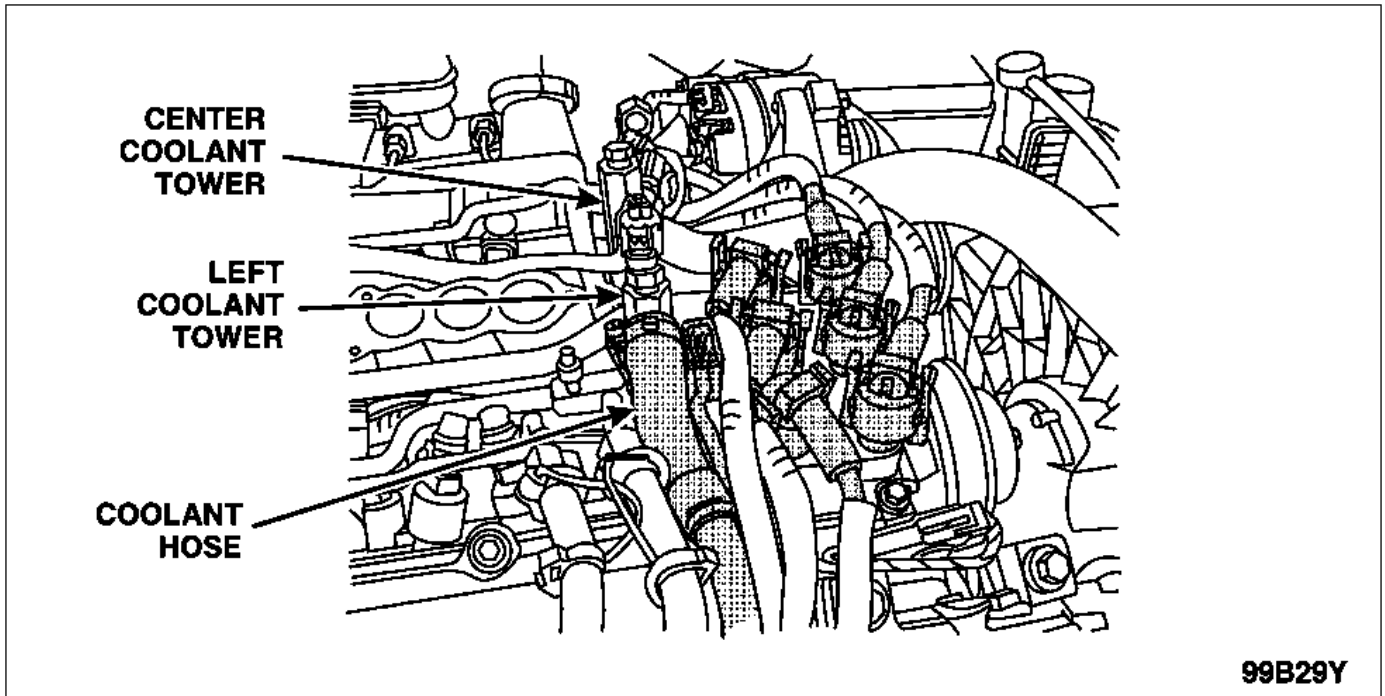

FIGURE 25
23. Disconnect the coolant hose from the left coolant tower. See Figure 25.